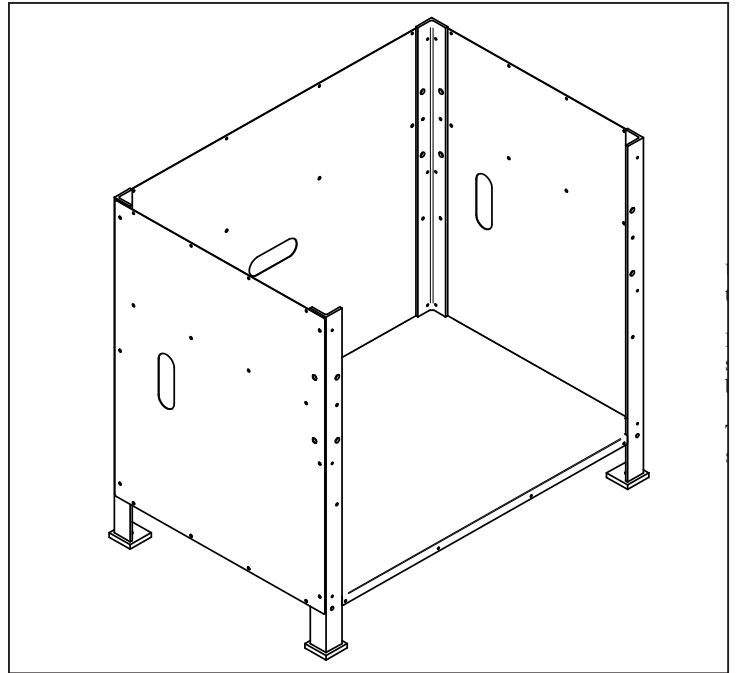

Figure 3
- Using eight 10-32 x 3/8" Phillips Screws, attach Lower Shelf (see **Figure 3**).